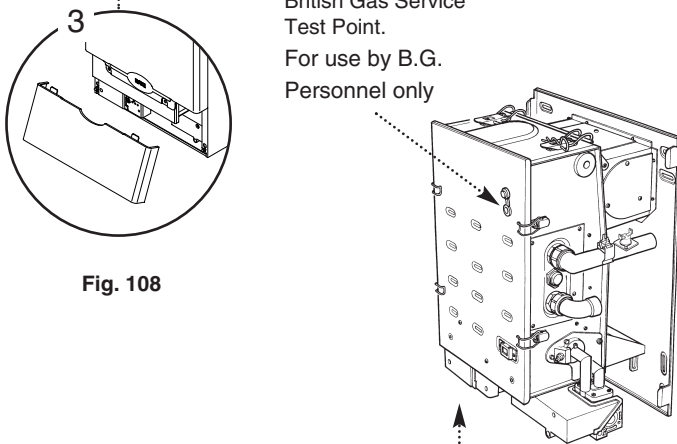

Fig. 108
3. Remove the outer case lower door panel (Fig. 108).